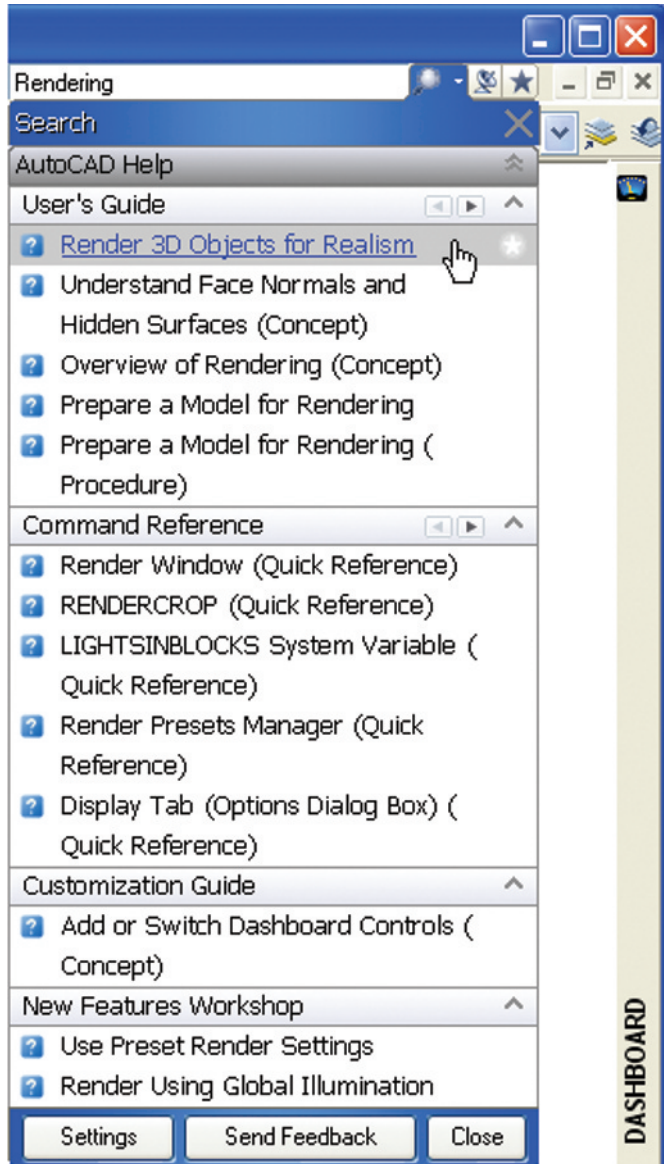

Fig. 20.13 Entering a request in the **InfoCenter** field, followed by a click on the **InfoCenter** icon
*Enter a request in the **InfoCenter** field, followed by clicking the **InfoCenter** icon and a menu appears offering choices from which a selection may be made. (Fig. 20.13).*